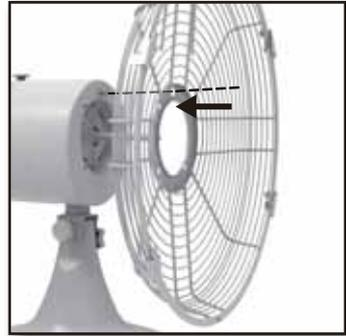

Figure 7
2. Align the large hole on rear grill to the rivet on top of the motor. Figure 7.